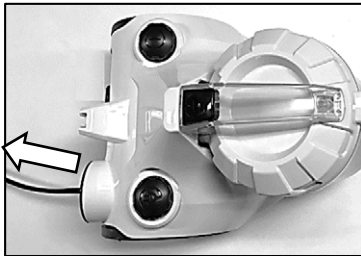

Fig 5
5. **Pull out the power cable:** You can pull the power cord out of the machine and stop it when you see the yellow mark. Make sure the red mark is not out (Fig 5).